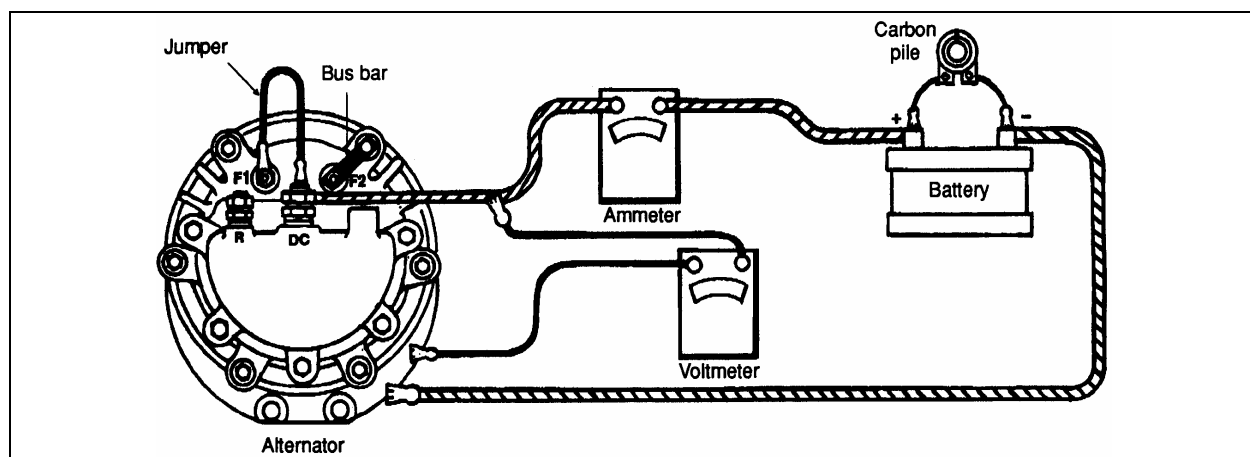

FIGURE 21: CONNECTIONS FOR CHECKING ALTERNATOR OUTPUT
1. Start the engine and momentarily connect a jumper from the “F1” field terminal to “DC (+)” terminal. For connections, refer to Figure 21.